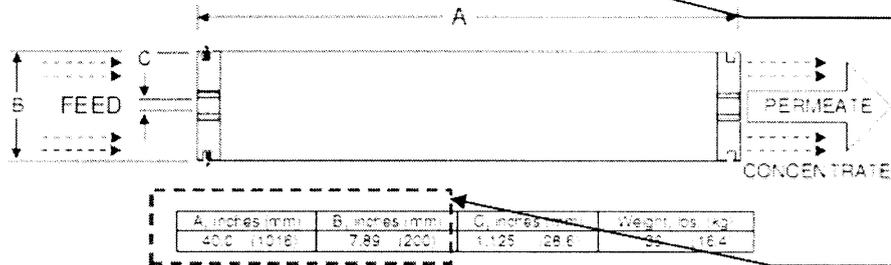

Figure 2 Membrane specification
- Membrane specification is showed in Figure 2